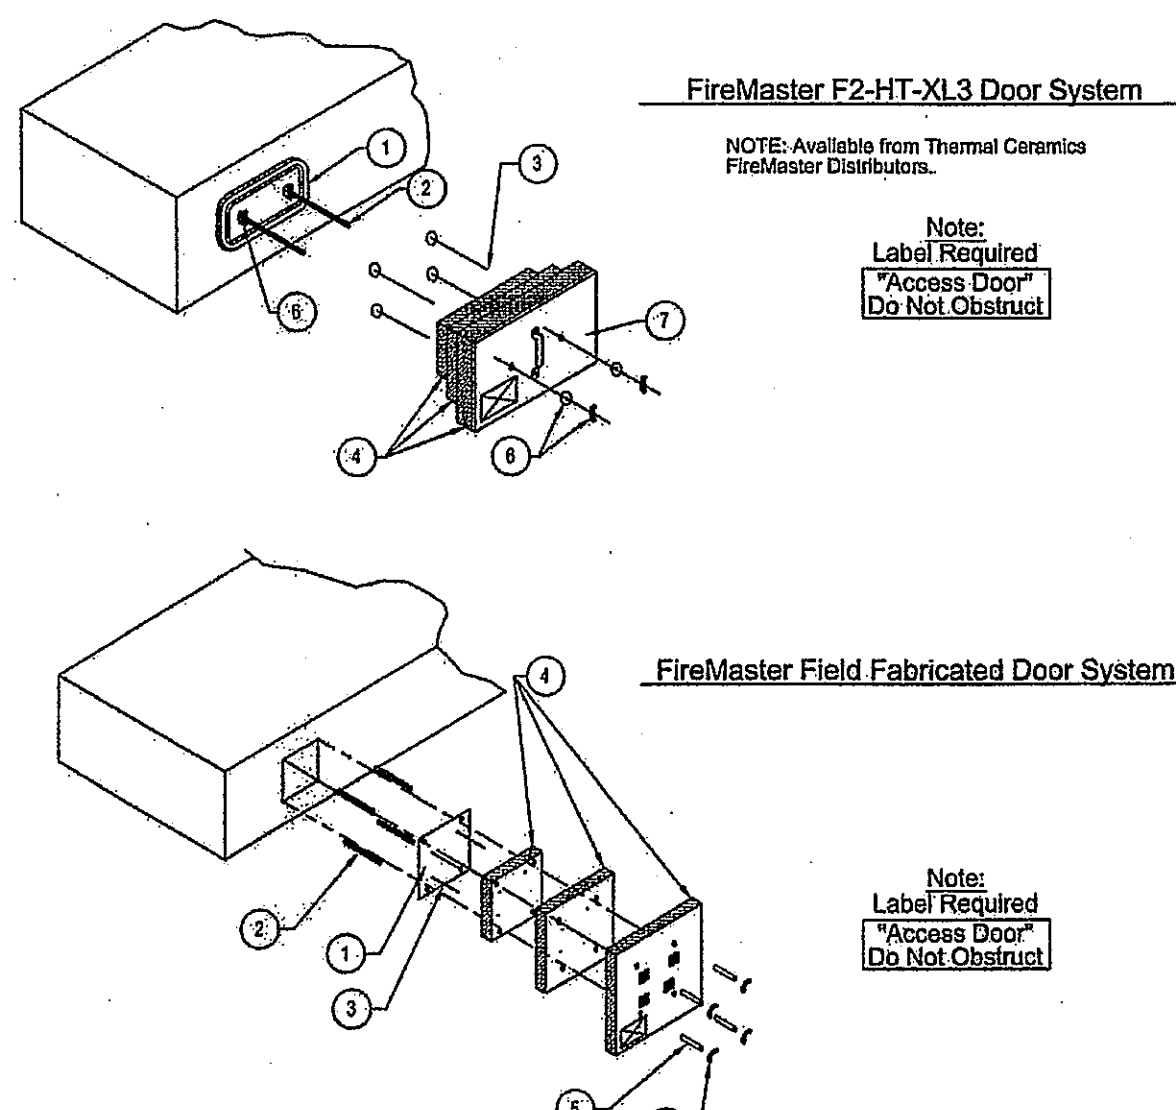

FIGURE 3
2) Field Insulated DuctMate Access Door (Figure 3) - DuctMate Ultimate and F2 doors are approved for use with FastWrap XL, and shall be installed according to DuctMate Industries installation instructions. A 16 gage (1.4mm) outer cover plate is required, which is 6" (152mm) larger in width and length than the DuctMate door, and which has holes drilled to match the threaded rods on the DuctMate door. Four 12 gage (3mm) insulation pins are welded to this outer cover plate, and three layers of FastWrap XL are impaled and fastened using minimum 1-1/2" (38mm) insulation clips. The insulation layer adjacent to the DuctMate door is cut to the size of the door and each successive layer has an overlap of 1-1/2" (38mm) over the adjacent layer. It is essential that the first and second layer fit tightly against the surrounding wrap with no through openings. All edges of insulation blanket must be sealed with minimum 3" (75mm) wide aluminum foil tape. The insulated cover plate is installed over the DuctMate threaded rods, and held tight against the duct with wing nuts and washers.
3) FireMaster Factory Built Access Doors (Figure 3) - FireMaster doors are tested per ASTM E2336 and are intended for use in two layer installations. FireMaster access doors come complete and ready for installation with a DuctMate® F2 access door, cut-out template, an outside cover plate with proper signage, as well as tested FastWrap XL insulation package, and installation instructions.
1) Field Fabricated Access Doors (Figure 3) - Each access door assembly has four threaded rods 1/4 inch (6mm) in diameter and 5' (127mm) in length, with one welded to each corner of the door opening. Hollow steel tubes, 4-1/2" (114mm) long are installed outside the access cover plate and over the threaded rods. Four 12 gage (3mm) and 1/2" (114mm) long steel insulation pins are welded to the access cover plate to allow for installation of the three layers of FastWrap XL. One layer of FastWrap XL is cut to approximately the same size as the access panel, and impaled over the insulation pins on the panel. A second layer of FastWrap XL is cut so as to overlap the first layer a minimum of 1-1/2" (38mm). It is essential that the first and second layer fit tightly against the surrounding wrap with no through openings. The third and outside layer should be cut to overlap the second insulation layer by a minimum of 1-1/2" (38mm). Minimum 1-1/2" (38mm) round or square insulation clips are installed on the insulation pins to secure the three layers of insulation to the access cover plate. All cut edges of the insulation shall be taped with minimum 3" (75mm) wide aluminum foil tape. Wing nuts and washers are installed on the four threaded rods, and tightened